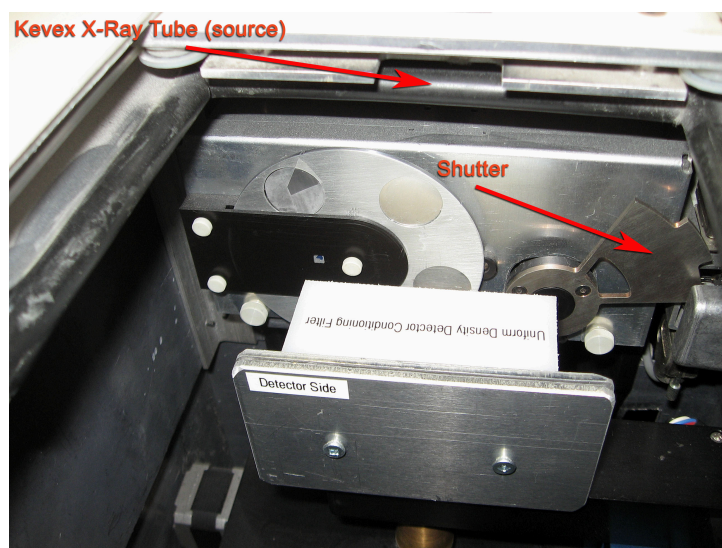

Figure 5: Inside the MS Scanner
7.4.2.2. Lift the “Uniform Density Detector Conditioning Filter” and take it out (see Figure 5).